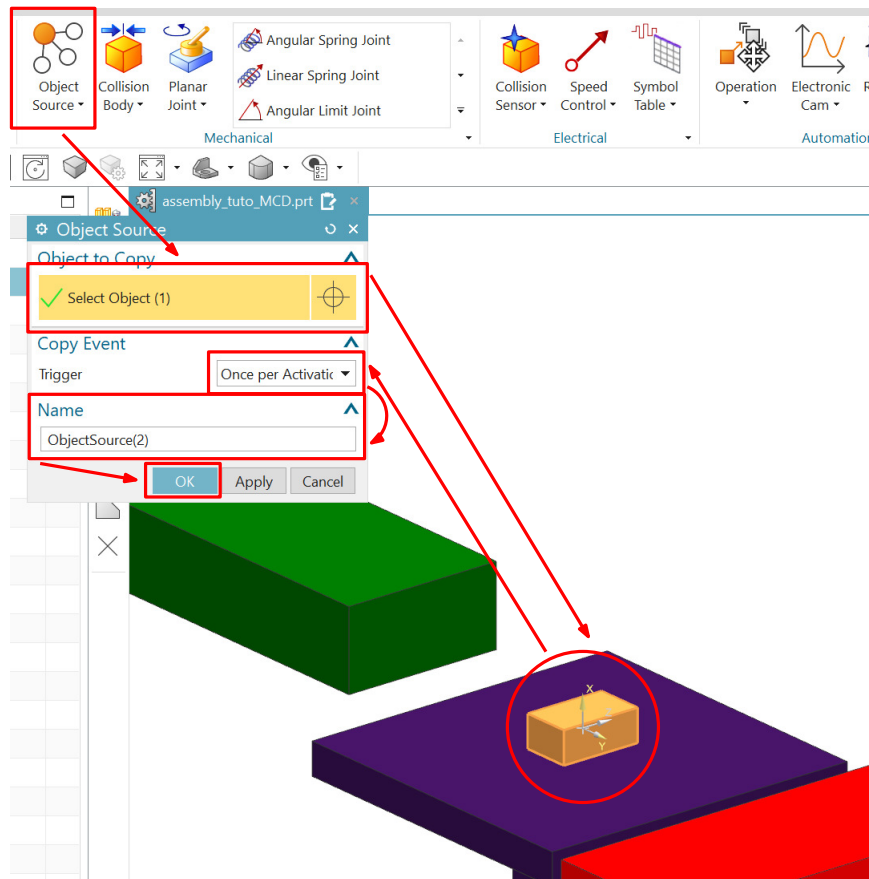

Figure 13: Creating an object source
1. An **object source** is created simply by clicking on the option and choosing an object that will reappear either at every activation of the source or at every bit of given time (figure 13). In this tutorial, choose the box as the source and choose "once per activation".